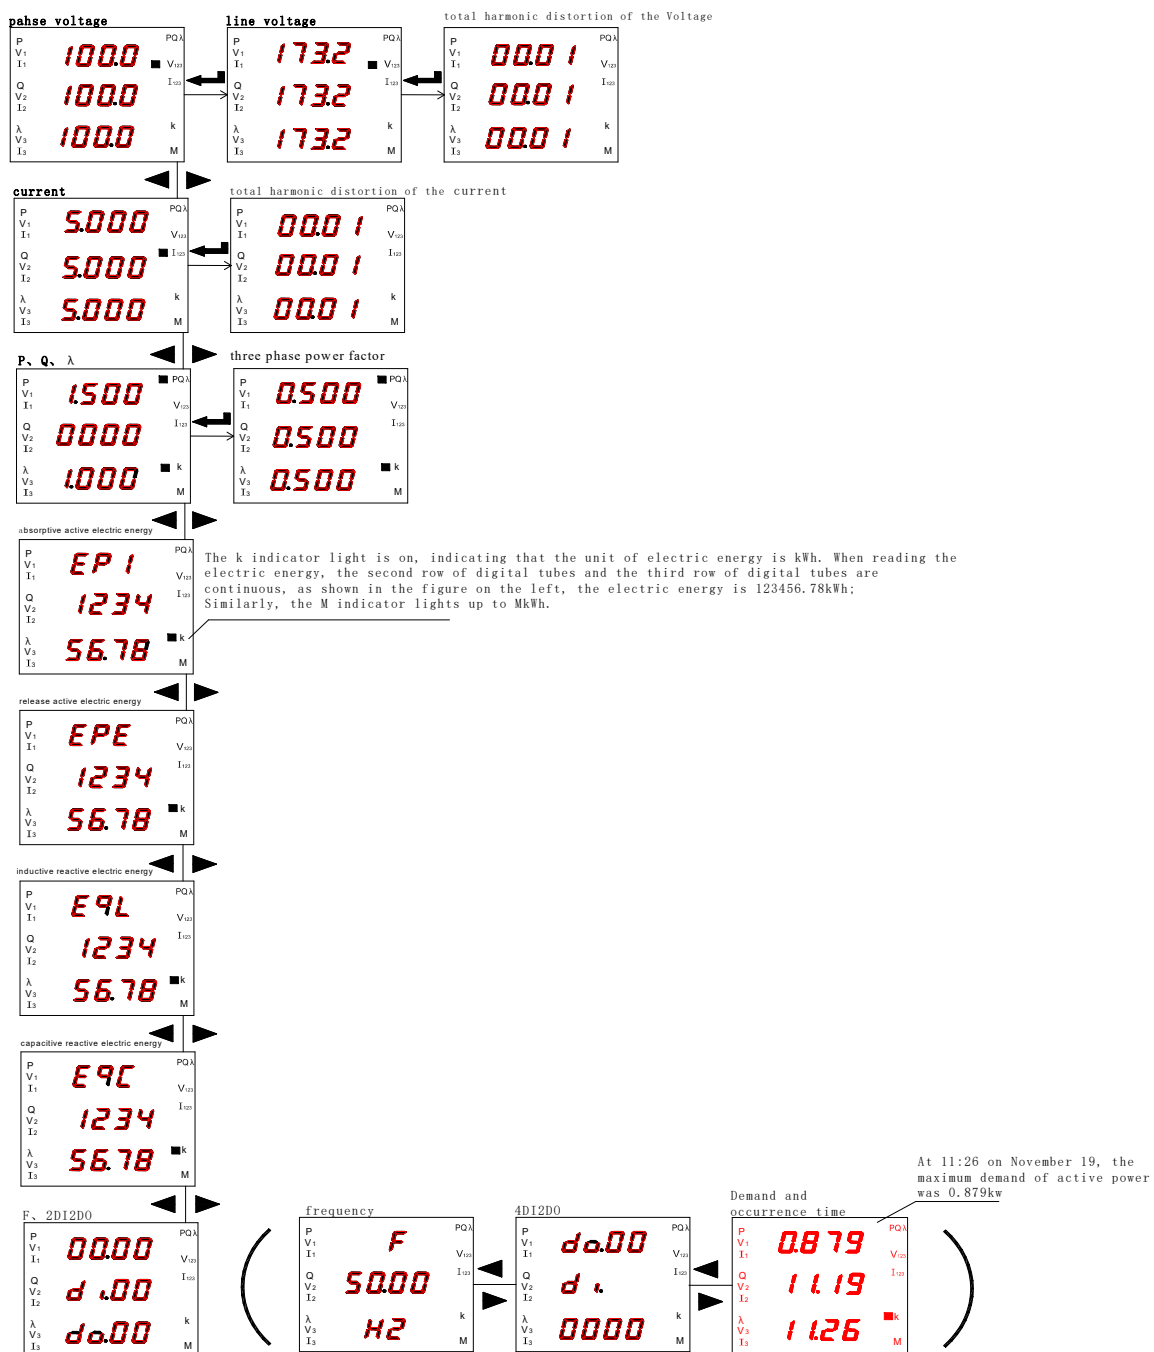
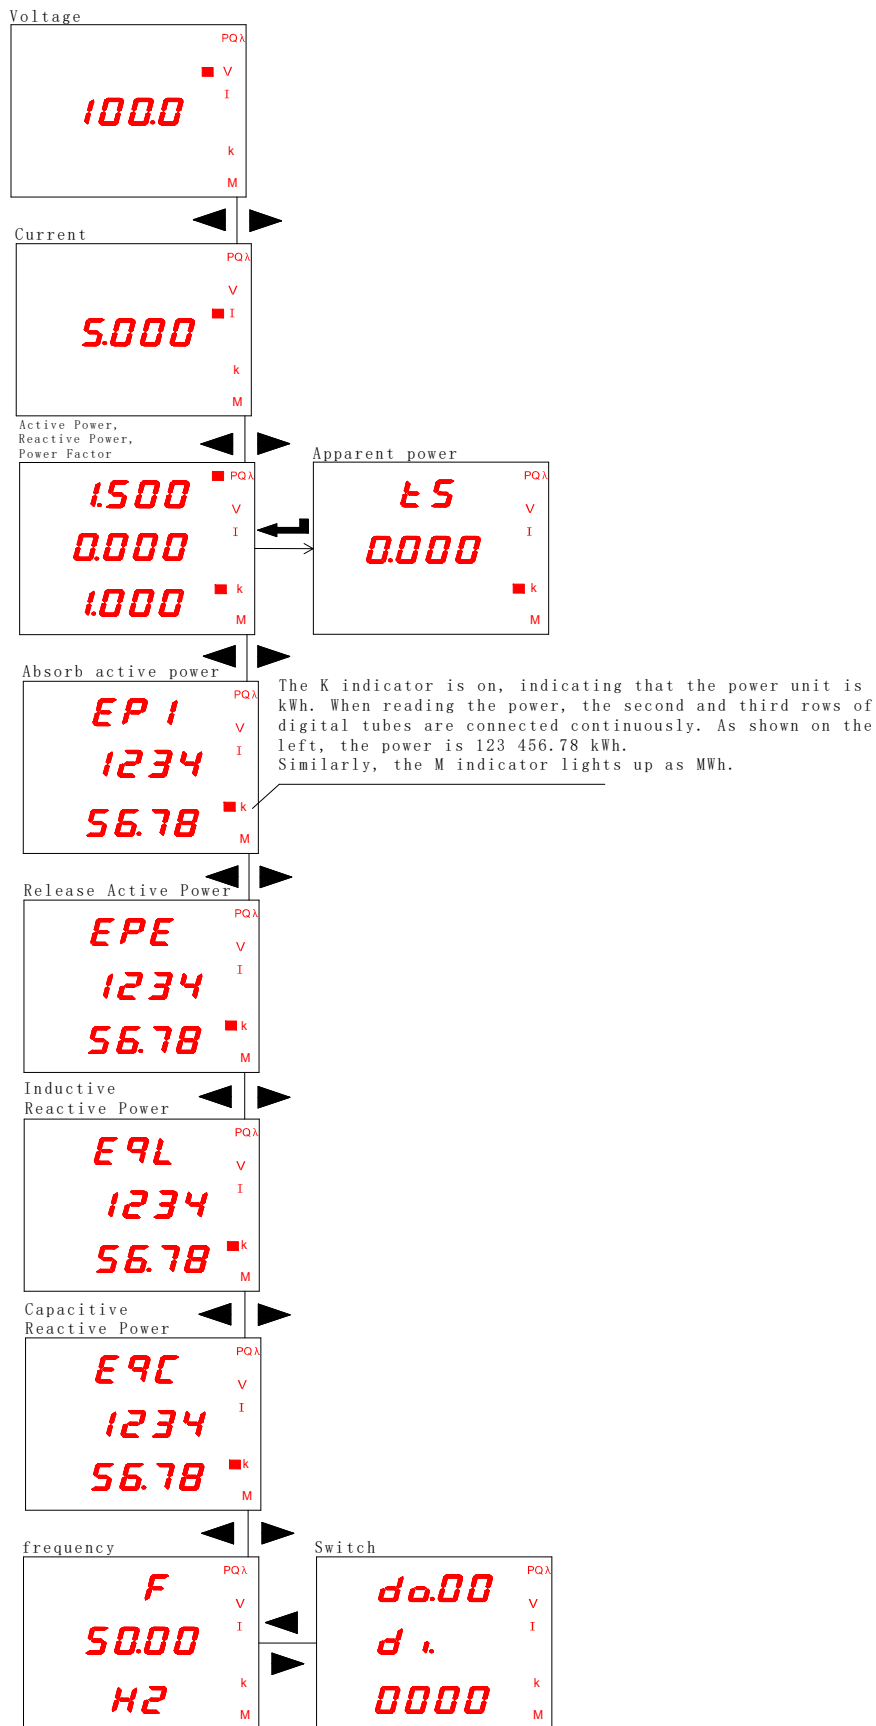

Figure 13
Figure 14
5.2.1 The operation steps of checking the current, voltage, power, electric energy and frequency of amc72 / 96 are shown in FIG. 13 and FIG. 14.